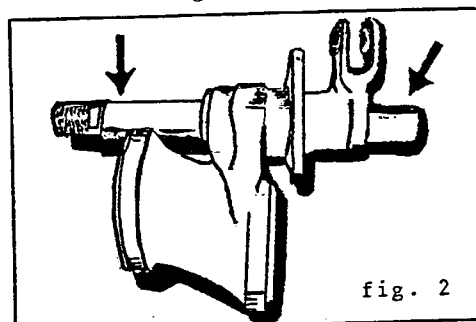

fig. 2
1. Dismantle the rock valve with the pivot shaft, (See fig. 2) and clean thoroughly. Check the bearing surfaces of the pivot shaft (arrows), the bearing bushings in the rock housing, and all other component parts for wear. Replace defective parts, especially the rear bearing bushing (at the pivot lever) in the rock valve housing.